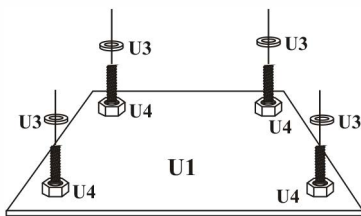

FIGURE 1A
- Slide a Thick Washer (U3) over each of the J-Bolts (U2) as shown in FIGURE 1A.